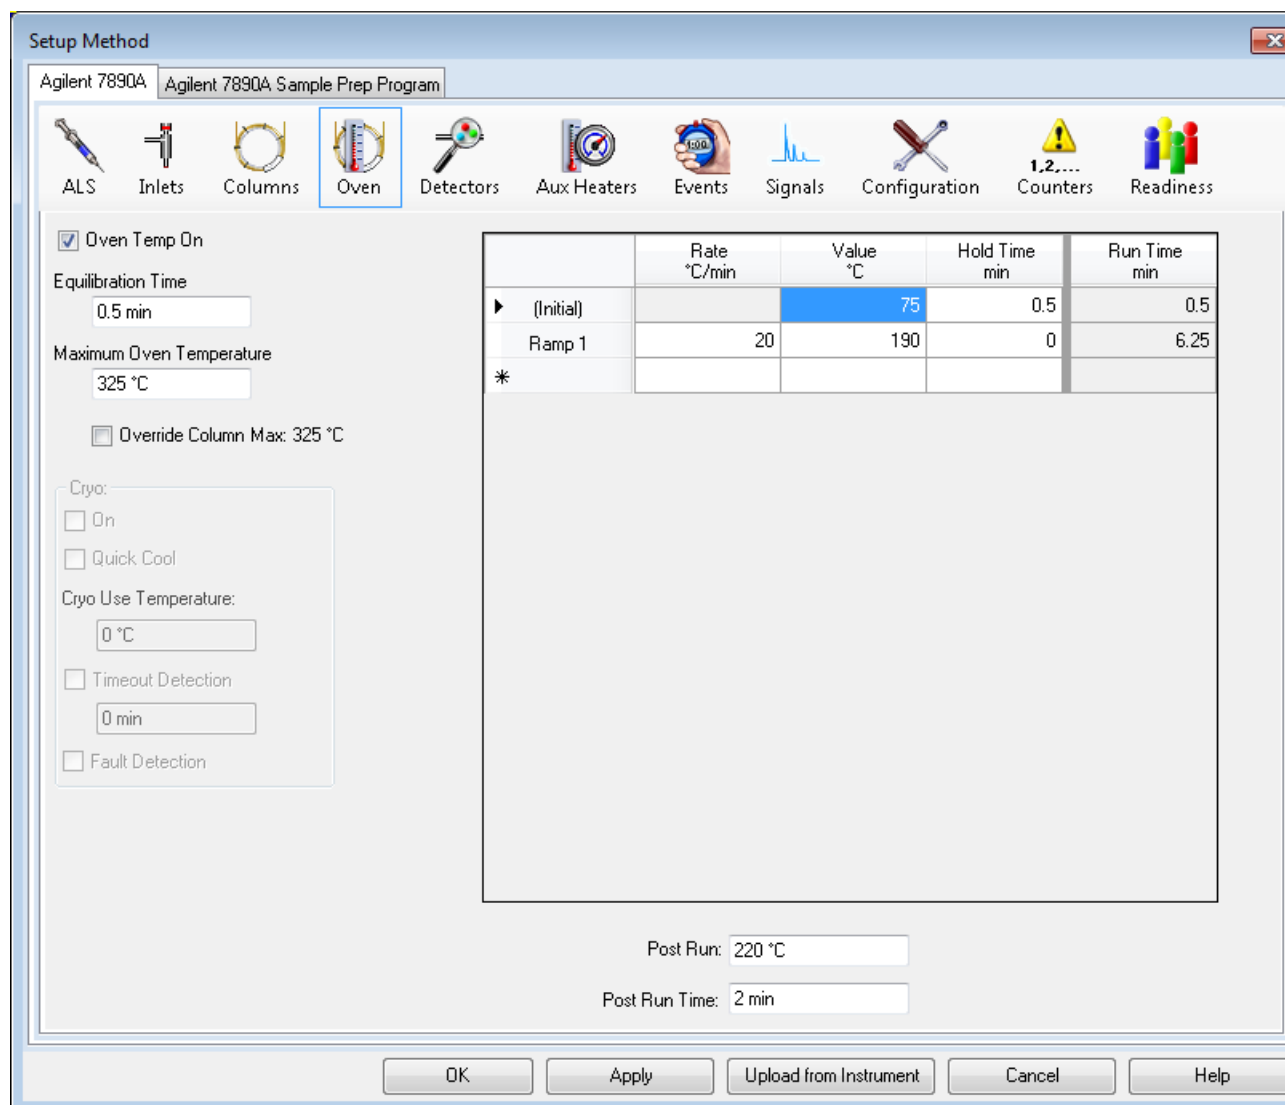

Figure 8 GC oven parameters
- 1 From the **Instrument** menu select **Edit Agilent 7890 Parameters** to display the **Setup Method** window. See Figure 8 on page 27.